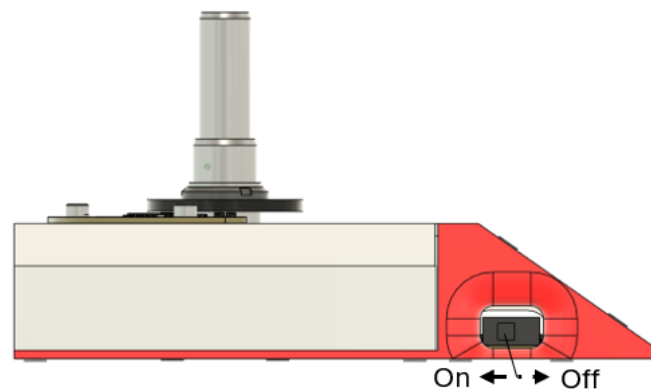

Figure 19: On-Off switch
- 4) Move the AM electronics board to the misaligned position (turn about 20°, see figure 19).